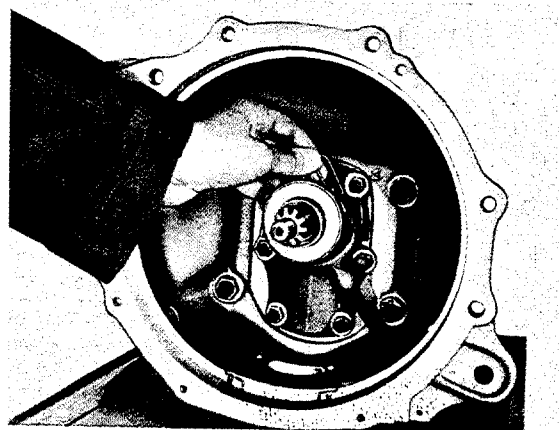

Fig. G 3/1
2. Set gear shift lever to neutral and unscrew transmission cover. To remove the cover, push a screw driver in the recess provided at the cover and pry the cover up (Fig. G 3/2).